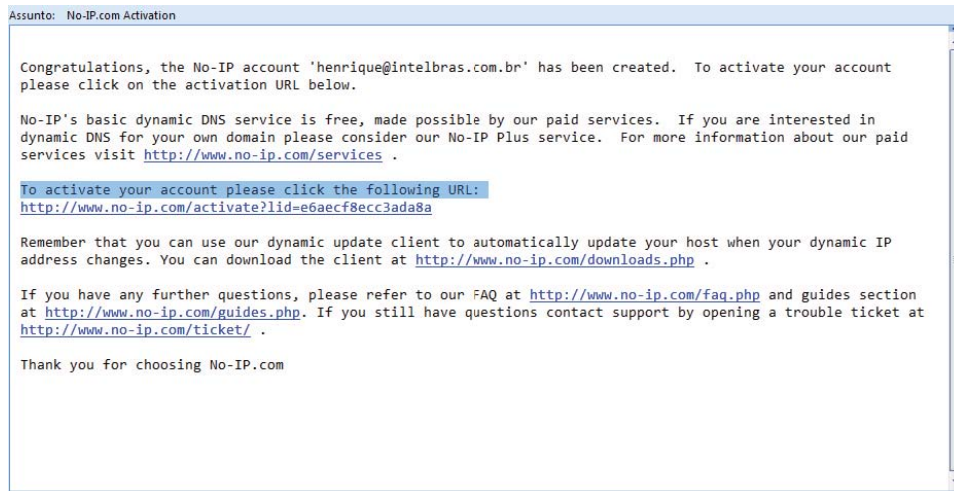

Figure 0-4
4. Open the e-mail sent by trusted rmação No-IP and double-click the link that is below the phrase "To activate your account please click the following URL:" in the body of the email. See Figure 0-4.